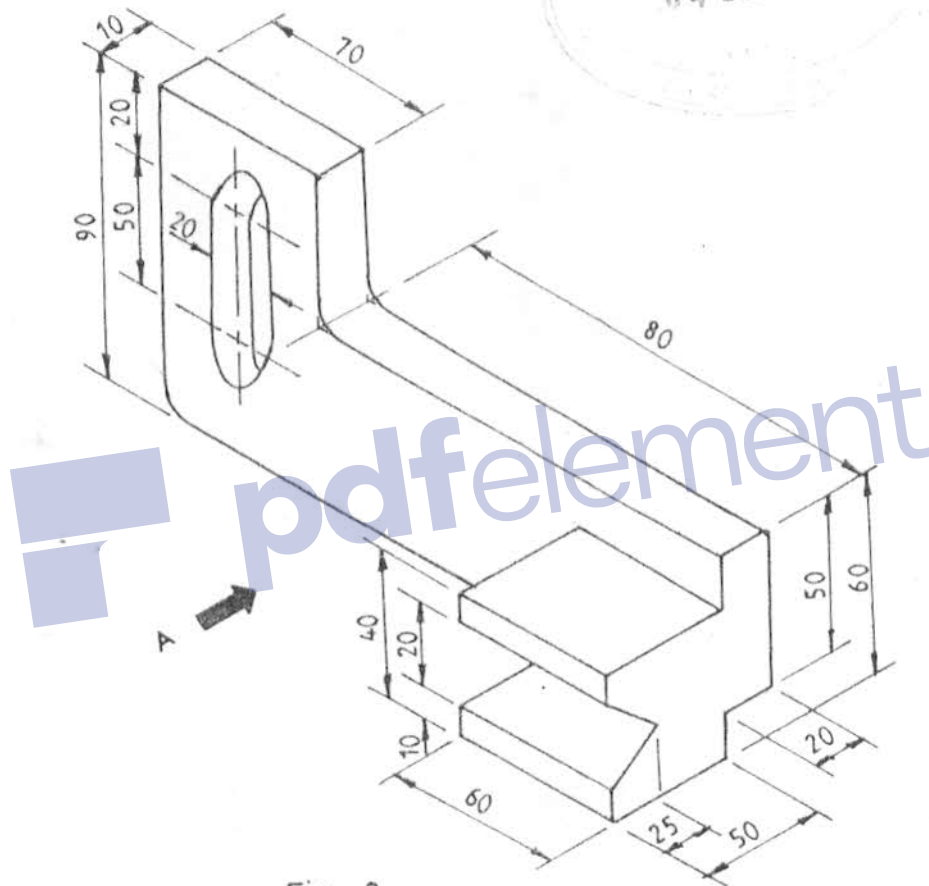

Fig. 2
5. Figure 2 shows an isometric drawing of an anchor stop. Draw, in third angle projection, the following views: